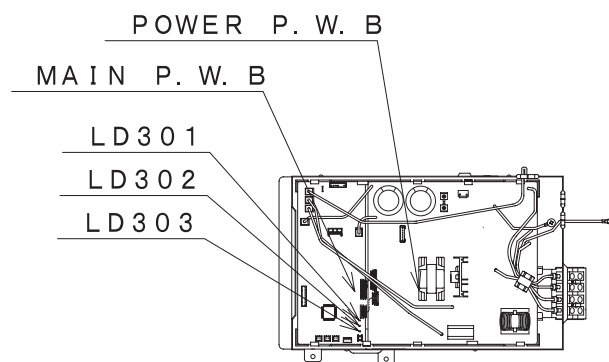

Fig. 4-5
- (1) When U₊ transistor is ON: U₊ transistor → U coil → V coil → V transistor → DC current detection resistor → Point (B) (Fig. 4-5)
- (2) When U₊ transistor is OFF: (by inductance of motor coil) U coil → V coil → V transistor → Return diode → Point (A) (Fig. 4-5)